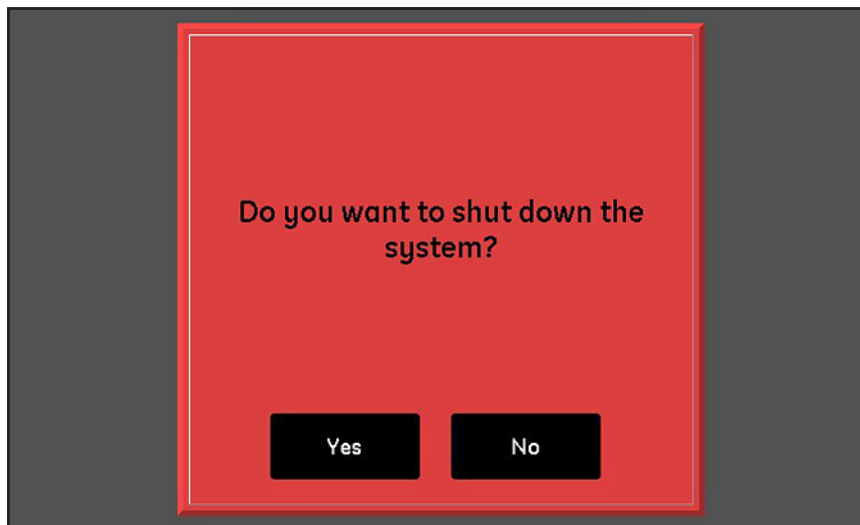

Figure 31: Shut Down Confirmation Screen
3. At the confirmation screen shown in *Figure 31* below, tap the **Yes** button to shut down the unit or tap the **No** button to cancel the request.
To shut down the moisture.IQ system, tap the **Shut Down** button. Then, tap either **Yes** or **No** at a confirmation screen similar to the one shown in *Figure 31* on page 36.